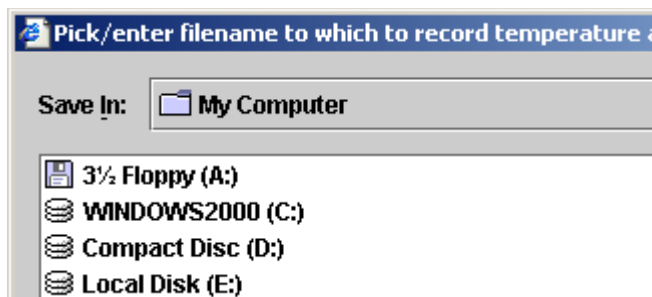

FIG. 32
**Record Temperature and Cycles** - records temperature and cycle information once per minute. A file is opened and data recorded. See FIG. 32.